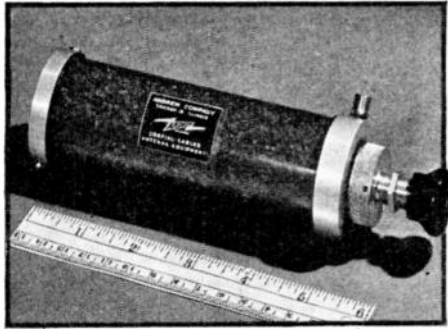

FIG. 7. ANDREW DRY-AIR PUMP
**Panel Pump:** To meet the needs of special high-frequency equipment, a panel-mounted dry-air pump, Fig. 7, is now available from Andrew Company, Chicago 19. This device can be made an integral part of the